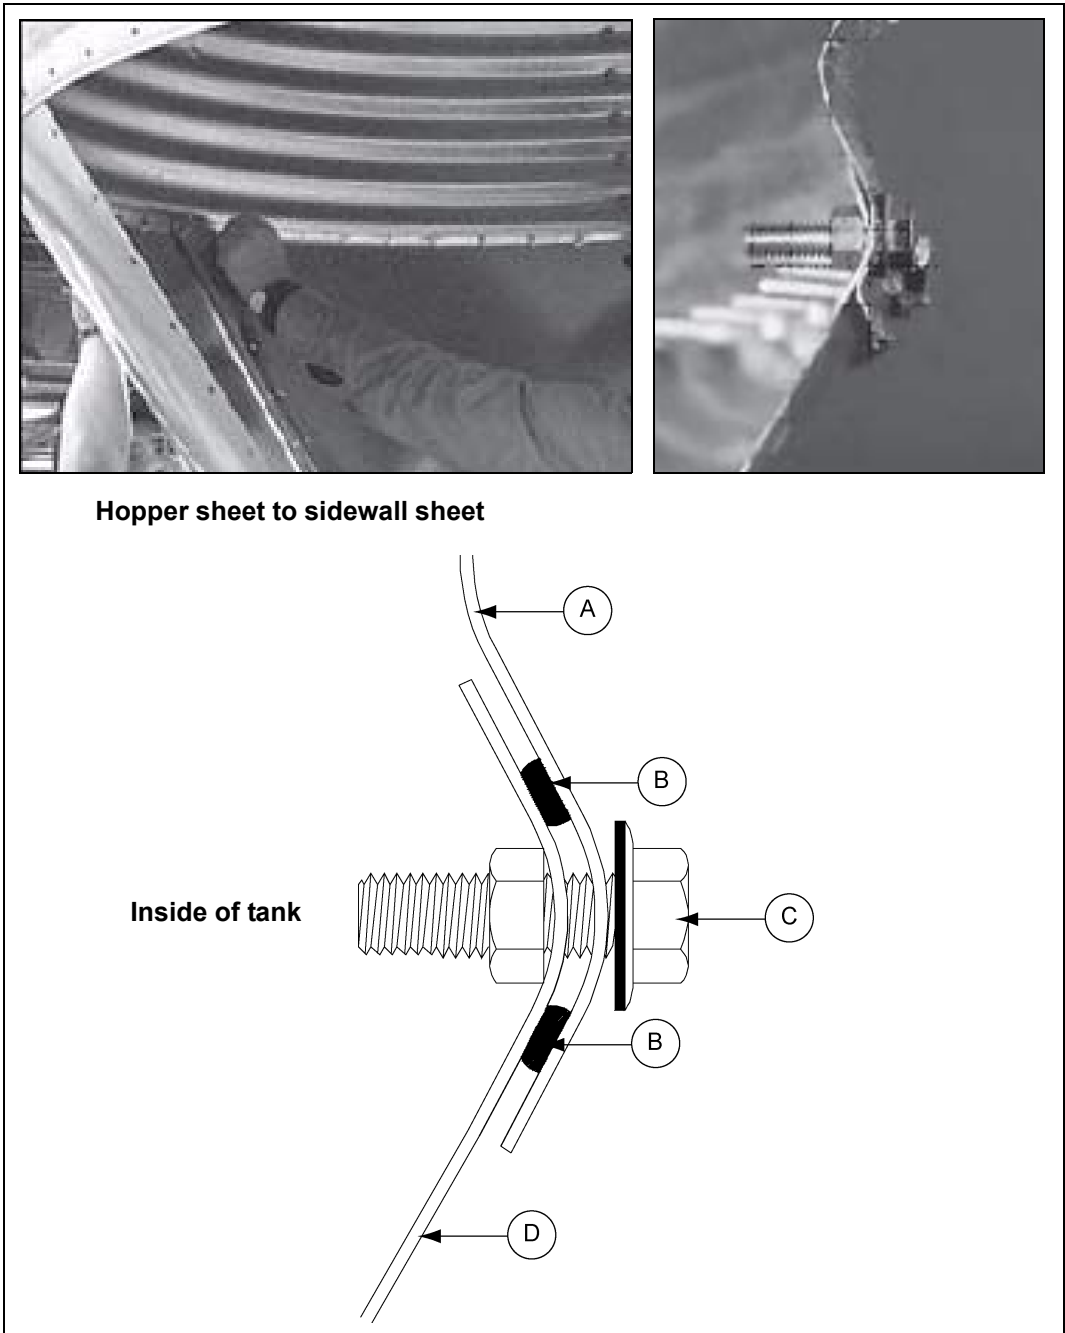

Figure 11B
When starting to attach hopper sheets to sidewall it is recommend that the first hopper sheet seam be positioned halfway between leg positions. Lap the hopper sheets as shown in Figure 11B on Page 54. Apply two (2) strips of caulking on all seams at sidewall to hopper and hopper sheet to hopper sheet. Be sure to place the head of the truss bolt on the **inside** of hopper. Leave one hopper sheet out to allow room to install hopper collar. Be sure to use two (2) strips of caulking between hopper collar and hopper sheets, then put last hopper sheet in place.